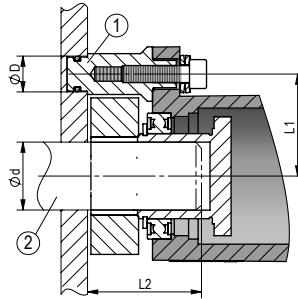
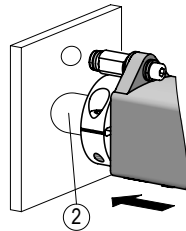
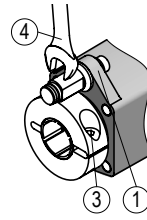

Fig. 1: Mounting dimensions
Fig. 2: Mounting
Fig. 3: Fastening torque for screws
- ▶ Ensure a low shaft and angle offset between shaft and accommodation bore by applying appropriate manufacturing methods (see Fig. 1 + Tab. 1).
If torque pin (see Fig. 3) is mounted improperly, this will lead to a destruction of the casing.
Preparing mounting (Fig. 1, Fig. 2, Fig. 3):
Mounting (Fig. 1, Fig. 2, Fig. 3):